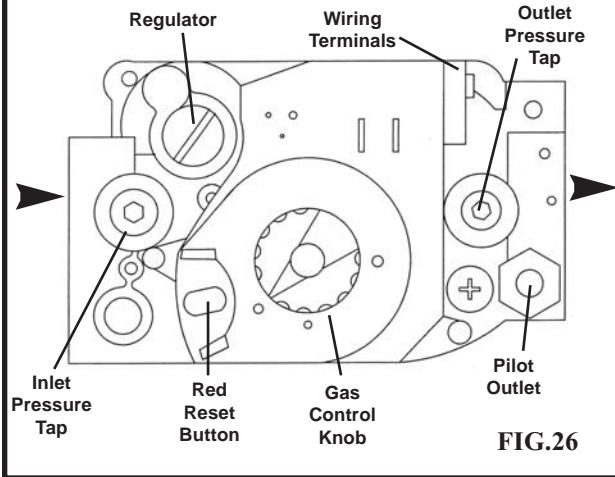

FIG.26
5. Remove the pressure regulator adjustment cap screw on the gas valve. See Figures 26, 27 and 28 for location.